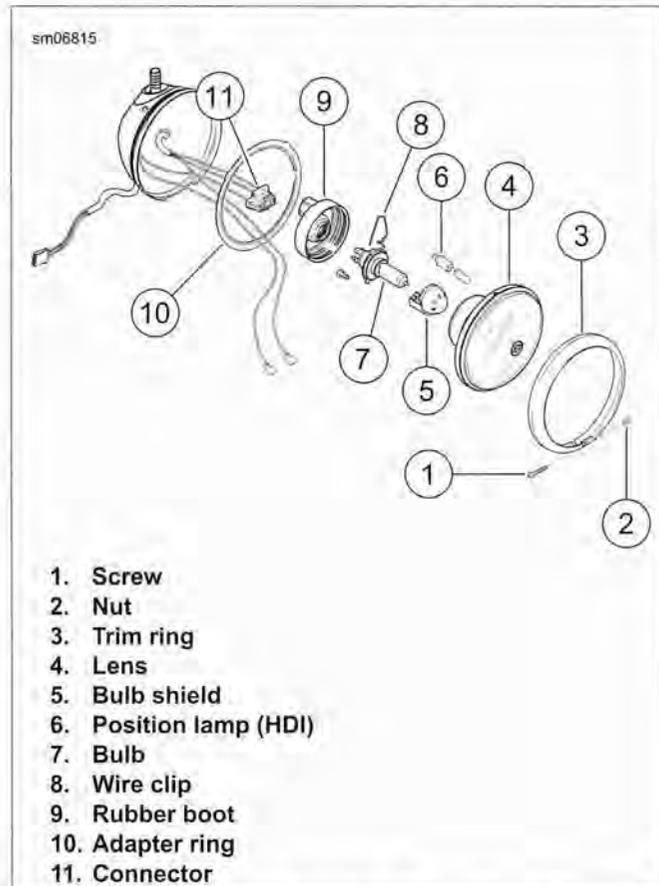

Figure 6-46. Headlamp Assembly: XL 883N/R, XL 1200L/N, XR 1200X
1. See Figure 6-46. Remove the screw (1), nut (2) and the trim ring (3).
2. Hold the lens (4) and compress the release tabs of the bulb connector (11) to disconnect from spade terminals.
3. Pull the rubber boot (9) from back of the lens.
4. Compress the ends of the retaining clip (8) to release from the retaining tabs and pivot retaining clip back.
5. Remove and replace the bulb (7).
1. See Figure 6-46. Disconnect the spade connectors from the position lamp bulb holder.
2. Pull the bulb holder (6) from the lens.